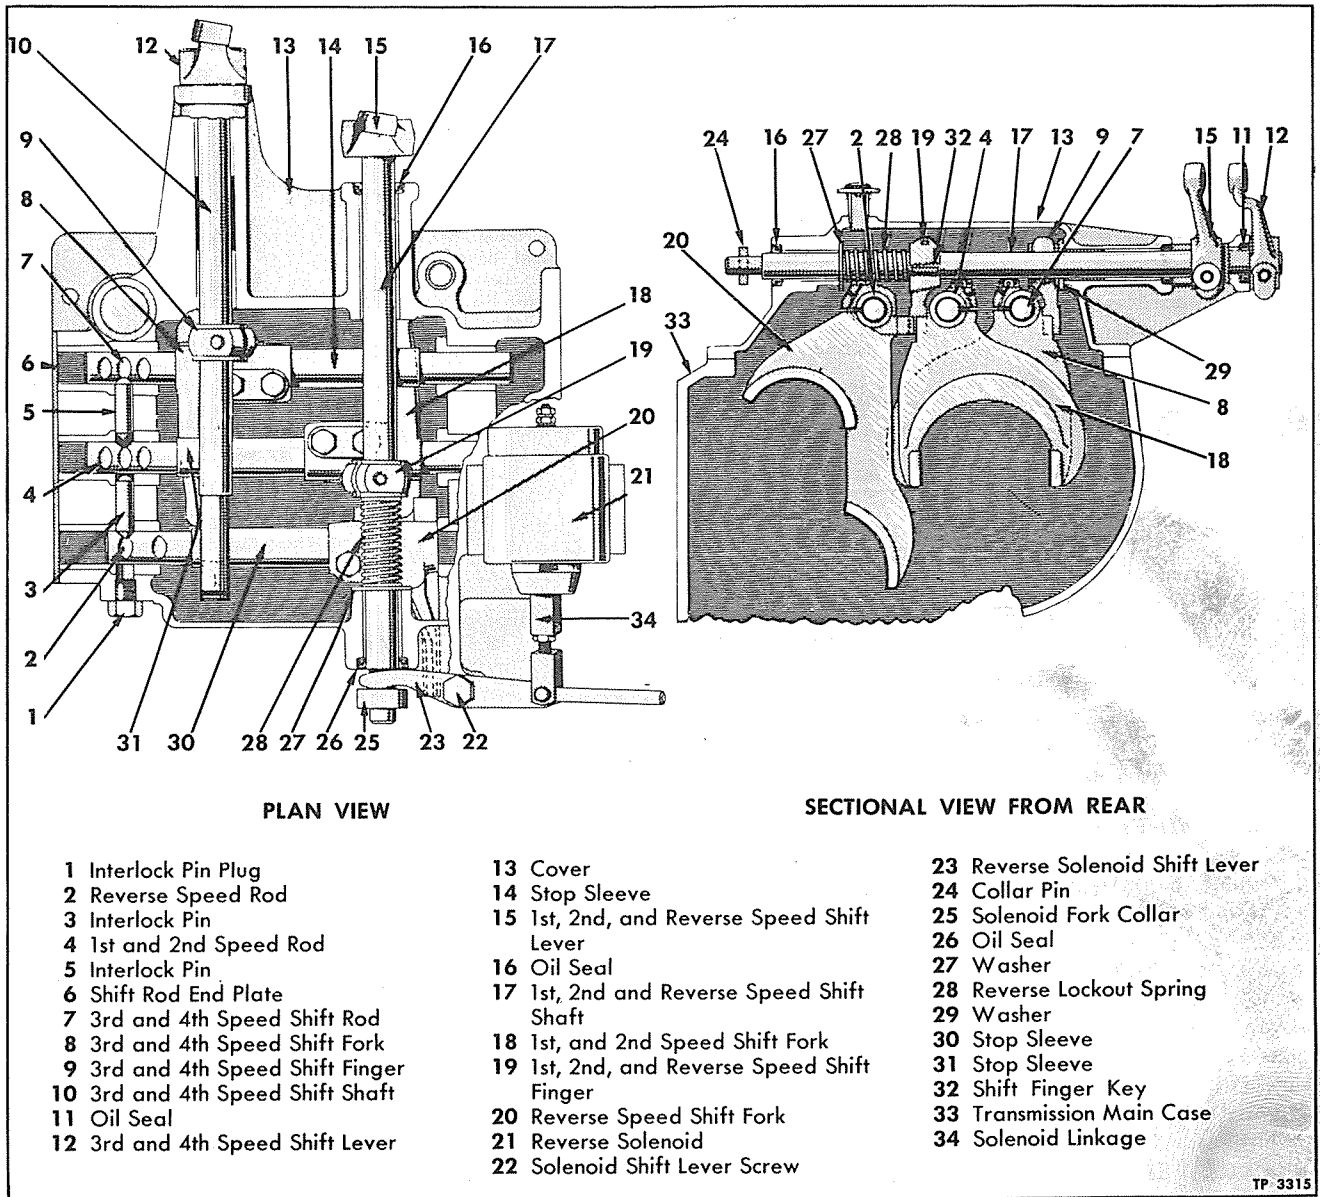

Figure 4—Sectional View of Transmission Cover
Spring loaded synthetic rubber type oil seals are used at main drive gear bearing cap (1) and at output shaft bearing cap (46). Spring loaded leather oil seals are used at three points on shift shafts in transmission cover. See figure 4, items 11, 16, and 26.
When gearshift lever is in 1st speed position the shift finger (19, fig. 4) is in line with notch in reverse speed shift fork, hence pressing the reverse button at this time causes reverse solenoid to operate, thereby moving finger into engagement with the reverse shift fork.